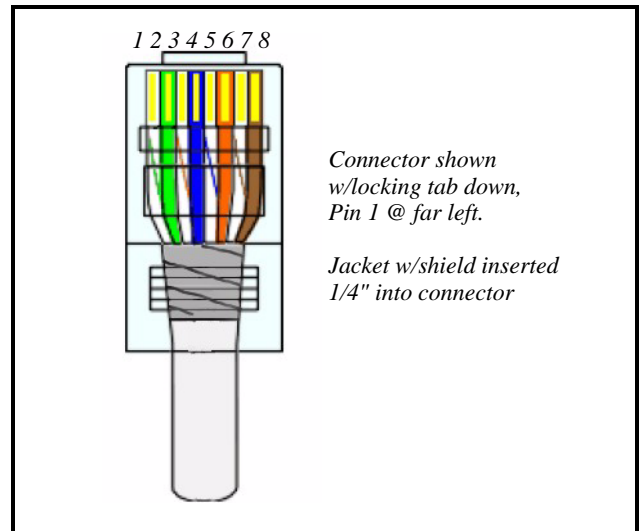

Figure 4-3 - CAT5e Cable End Loaded Into Connector
- Hold the connector in front of you with the locking tab down. Orient the wires so connector pin 1 aligns with cable pin 1, etc. (Pin 1 is on the far left). Slide the wires into the CAT5e connector. The cable jacket should extend into the connector about 1/4" for strain relief (*Figure 4-3*).